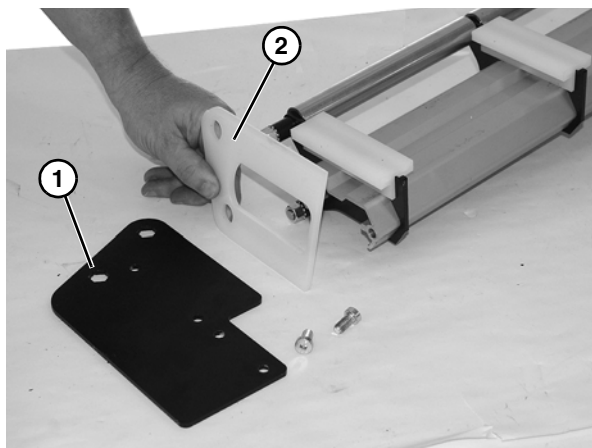

Figure 66
5. Remove plate (**Figure 66, item 1**) and transfer plate (**Figure 66, item 2**). Repeat procedure on opposite side. Check transfer plate on each side for wear. If worn, replace.